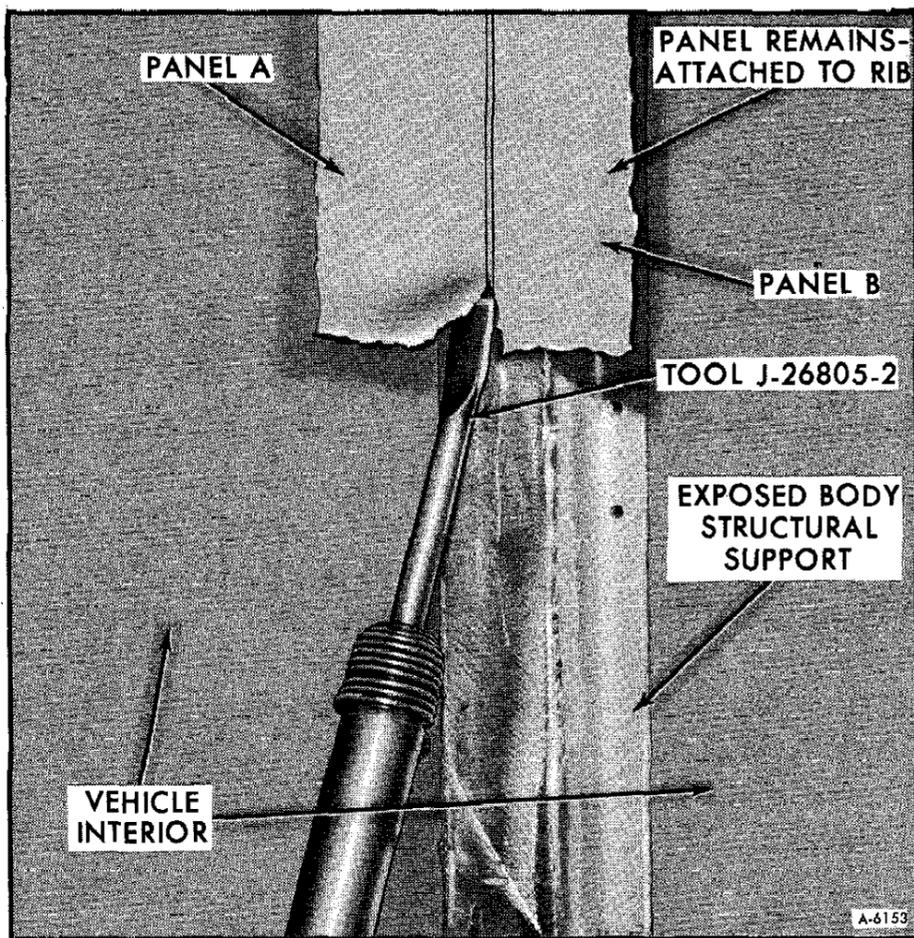

Figure 11—Panel Removal With Air Chisel—Step 4
4. Using a Flat End Scraper Bit (J-26805-2), operate the air chisel along the rib line and underneath the panel piece to break the adhesive bond between the panel and the rib. Note that figure 11 shows panel "remains" from two body side panels (panel A & panel B) being removed from the structural support. This would be necessary only if both panels were damaged. If only one panel needs replacement, only one panel is removed from the rib, using the visible seam between panels as a guide. (Refer to figure 11.)